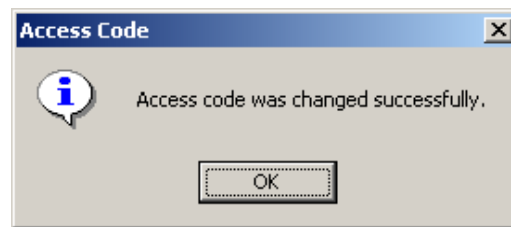

Figure 4-3 Access Code Changed Confirmation Screen
4. Select **Yes**, IPScom will display an Access Code Was Changed Successfully Confirmation Screen (Figure 4-3).